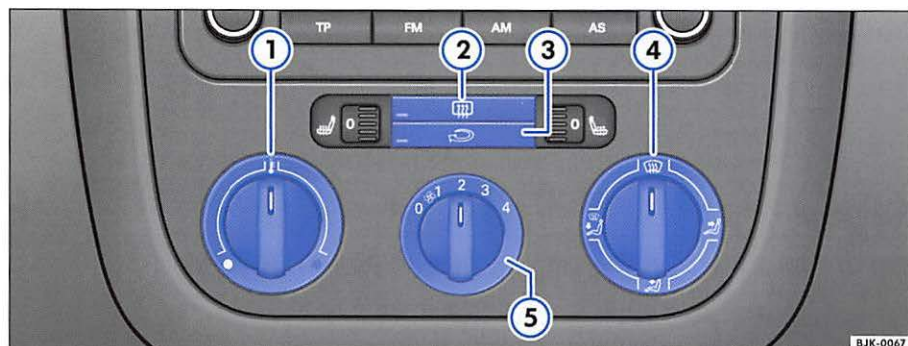

Fig. 66 In the center console: heating controls
- Using the controls ⇒fig. 66 ①, ④ and ⑤ you can adjust the temperature, air distribution and the fan speed.
- To switch a function on or off, press the appropriate button ② or ③. When a function is switched on a light in the button illuminates.
① Temperature